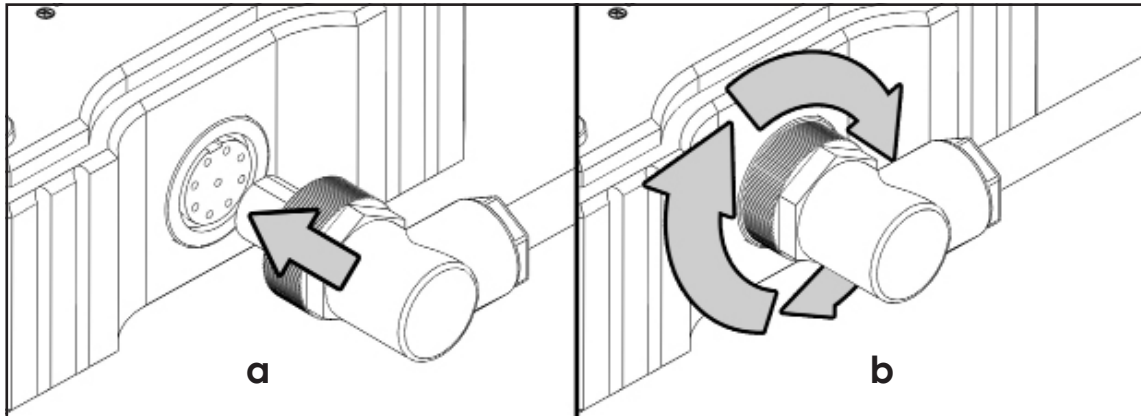

Figure 6. Steps to secure the tilt sensor module with sensor cord
1. Ensure the circular multipole connector is aligned to the receptacle on the sensor module as illustrated on Figure 6(a).
2. Secure the rotatable ring by turning it clockwise as in Figure 6(b).